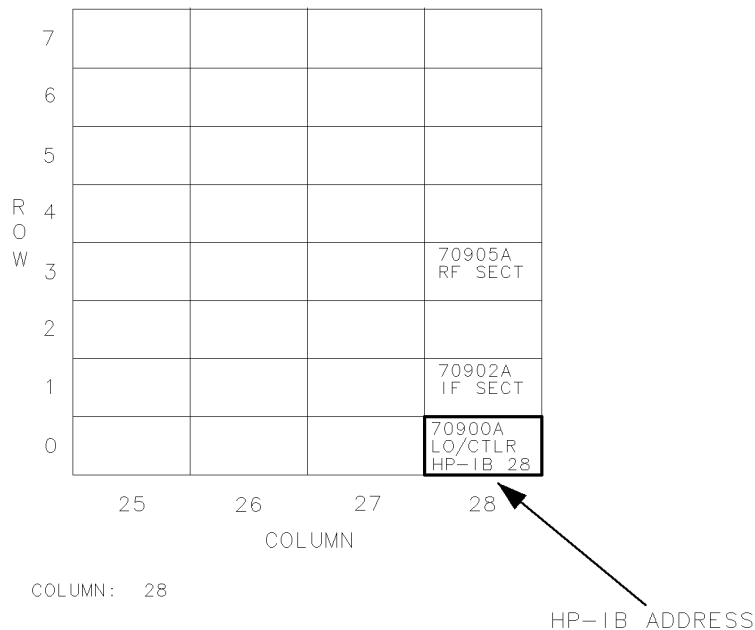
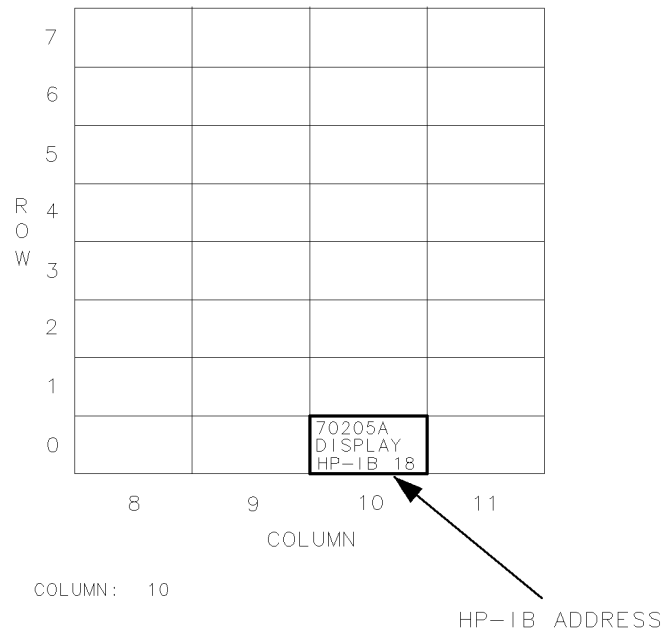
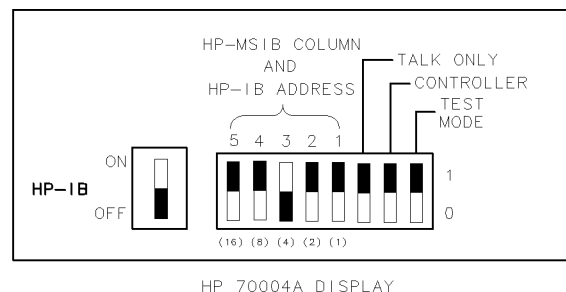

Figure 1-1. Spectrum-Analyzer HP-IB Address as shown on Address Map
Figure 1-2. View Display Module on Address Map
Figure 1-3. Address Switches on Local-Oscillator, IF-Section, and RF-Section Modules
To view the map, press **DISPLAY**, then press **Address Map**. Turn the front panel knob until the HP 70900B local oscillator source appears in the **address map** matrix. The HP-IB address is indicated next to the HP 70900B local oscillator source number. (The HP 70900B local oscillator source contains the firmware that controls spectrum analyzer operation and communicates with HP-IB.) The HP 70900B local oscillator source must be in row 0 for HP-IB access. (See Figure 1-1.) If the HP 70900B local oscillator source is not in row zero, set the HP-MSIB module address switch to row 0. (See Figure 1-3 and following text or refer to *HP 70000 Modular Spectrum Analyzer Installation and Verification Manual*)
4. Check system configuration on the address map. For normal spectrum analyzer operation, the local oscillator and display modules are positioned in the bottom row, row 0, of the **address map** with the other modules stacked in a column above or above and to the right of the HP 70900B local oscillator source. (See Figure 1-1 and Figure 1-2.) The column may contain empty spaces between modules. If your system is not configured properly, for installation instruction, refer to the *HP 70000 Modular Spectrum Analyzer Installation and Verification Manual*.
The switches are located on the side, top cover, or rear panel of the modules. Figure 1-3 shows the address switches for the different modules.
Figure 1-3 shows how to set the address switches. The numbers in parenthesis indicate the binary value of the individual switches. The column or row address is the sum of the values in the parentheses beside each switch that is set to 1. For example, a column address of 18
The current HP-IB address is shown inside the HP 70900B local oscillator source box on the address map (Figure 1-1). Changing the HP-IB address with the front panel controls does not affect the HP-MSIB address of the module.